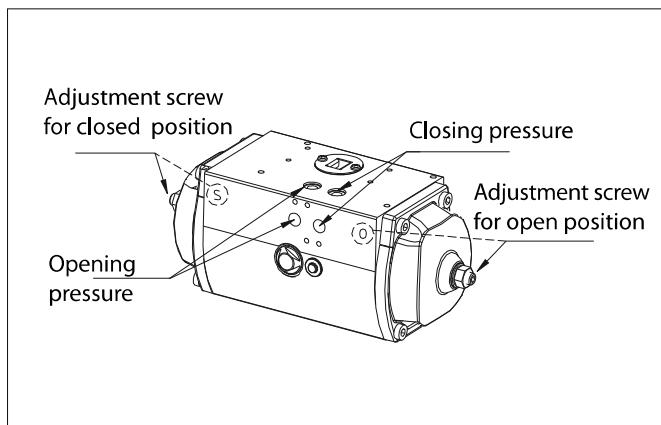

Fig. 41 Actuator connections
- The open or closed positions of the actuator can be identified either by using compressed air, see Fig. 41, or by checking the position of the pointer at the end of the drive shaft. The actuator is closed if the pointer on the coupling plate is transverse to the direction of the actuator's main shaft.
- Finally, the extreme positions of the valve are adjusted with the stop screws at the ends of the actuator. The location of the screws for adjusting the Close and Open positions of the valve are marked with letters on the ends of the actuator housing, see Fig. 41.